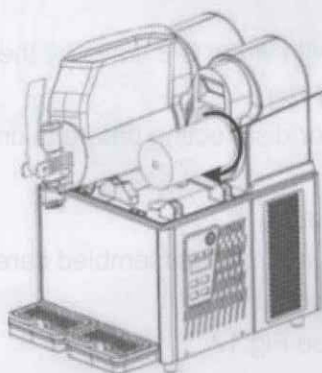

Fig.14
Install seal (B), lubricate the entire surface with grease as arrow marks see Fig.14